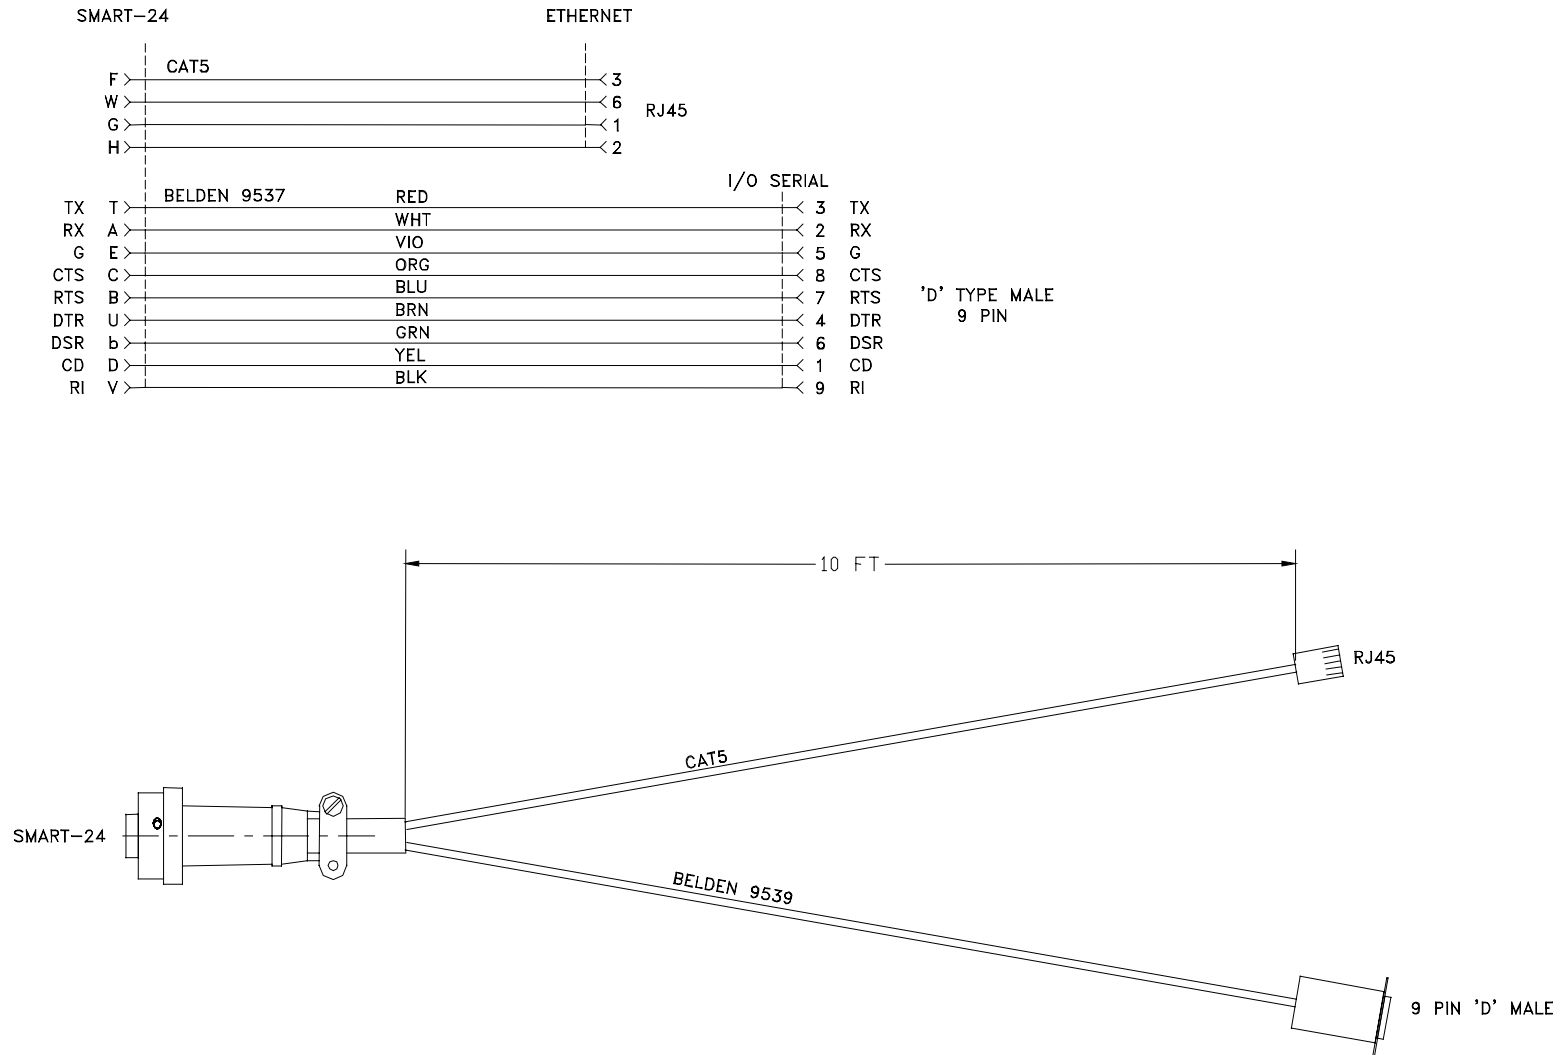

Figure A-5. SMART-24 I/O Cable, Serial to 9 Pin Modem Plus Ethernet
- Figure A-5. SMART-24 I/O Cable, Serial to 9 Pin Modem Plus Ethernet